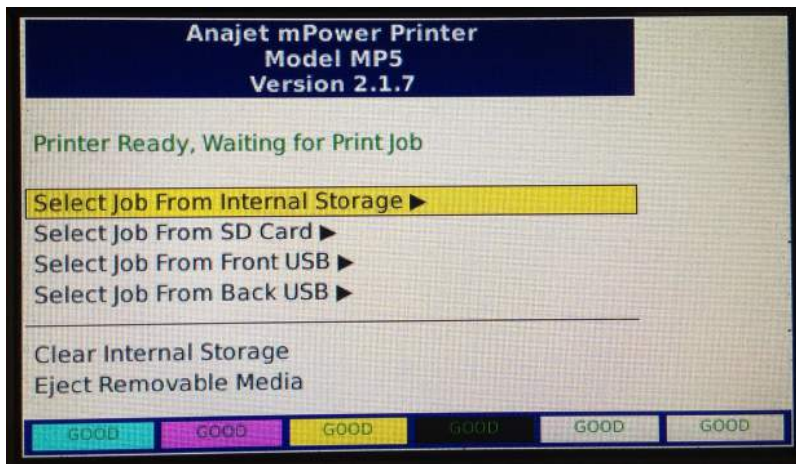

Figure 5.3q: The Jobs Menu
- To print a file from a USB drive or SD card press the <JOBS> button and select where your rip file is located. select **Select Job From Front USB**, **Select Job From SD** or **Select Job From Back USB** (Figure 5.3q) from the Jobs Menu and press Enter. You can now scroll through all the print jobs and select the file you want to print and press <ENTER>. The specific job file will come up in the display, adjust the **Copies to Print** and then press the <PRINT> button to print the print job.